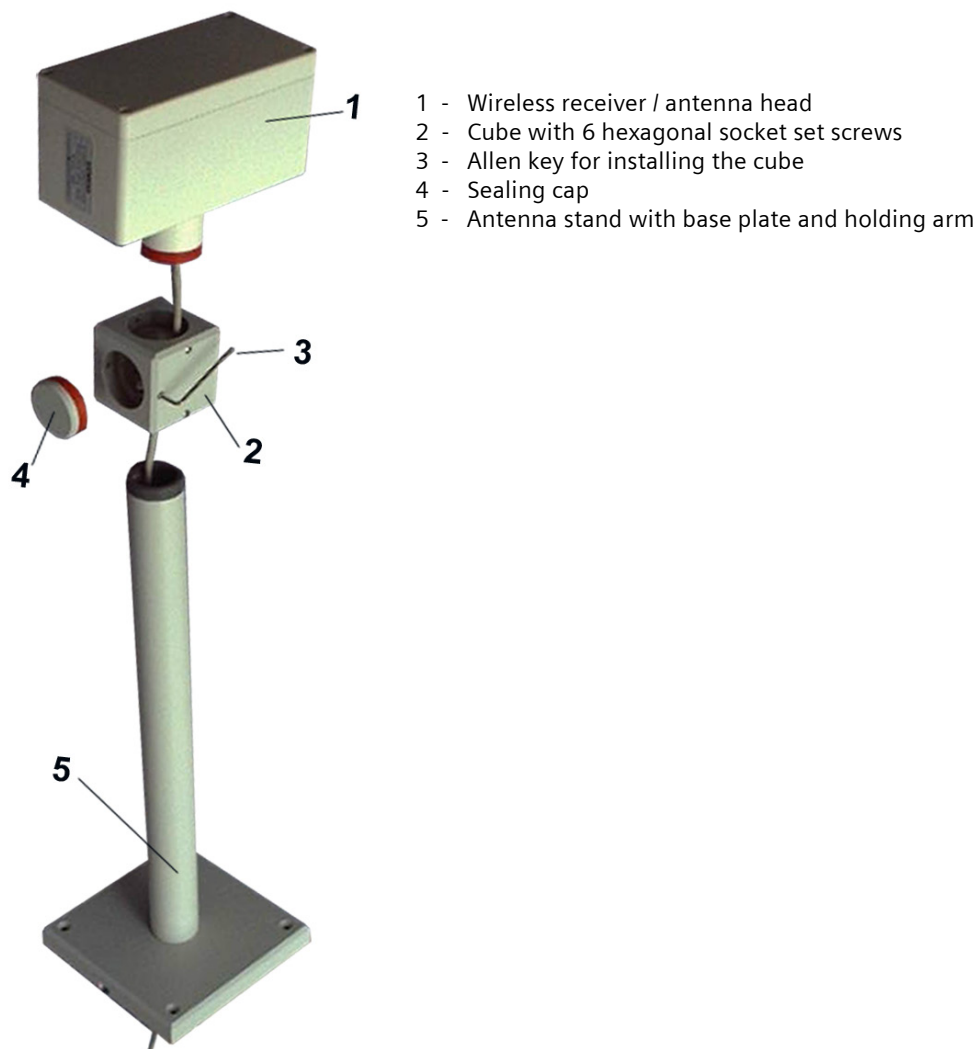
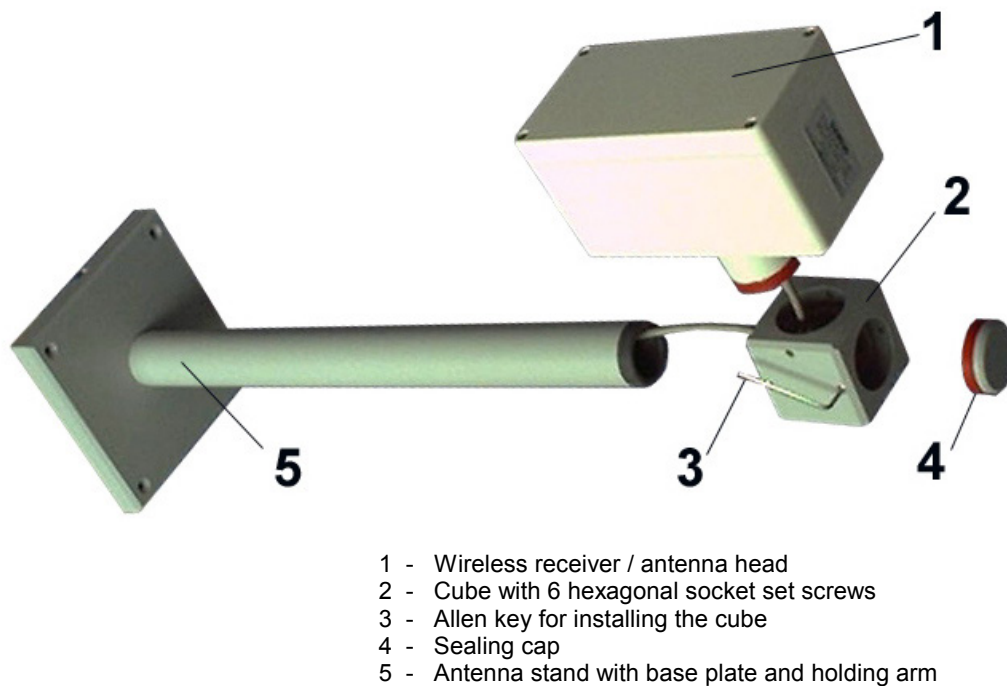

Figure 7: Flat roof installation
Figure 8: Wall mounting
4. Assemble the wireless receiver on the antenna frame in accordance with Figure 7 or Figure 8.
- (a) Mark the position of the holes for mounting in the intended place with the aid of the base plate (5) before drilling the holes and inserting the dowels.
- When installing the antenna on a flat roof (Figure 7), insert the connecting cable of the wireless receiver (1) in a straight line through 2 opposite openings of the cube (2). Push the antenna head support of the wireless receiver into the opening of the cube as far as it goes, and gently tighten on the left and on the right with the two hexagonal socket set screws as provided. Insert the connecting cable from above through the antenna stand (5). Push the cube (2) with the already installed wireless receiver (1) as far as it goes on the holding arm and tighten it gently on the left and on the right on the holding arm with the 2 hexagonal socket set screws as provided. Now adjust the wireless receiver radially (this has no influence on the reception properties). To do this, loosen the hexagonal socket set screws again. After this, tighten the hexagonal socket set screws again. Finally, close the opening in the cube (2) with the sealing cap (4) and then gently tighten the two hexagonal socket set screws on the left and right.
- When installing the antenna on a wall (Figure 8), insert the connecting cable of the wireless receiver (1) in a straight line through 2 opposite openings of the cube (2). Push the antenna head support of the wireless receiver into the opening of the cube as far as it goes, and gently tighten on the left and on the right with the two hexagonal socket set screws as provided. Insert the connecting cable from above through the antenna stand (5). Push the cube (2) with the already installed wireless receiver (1) as far as it goes on the holding arm and tighten it gently on the left and on the right on the holding arm with the 2 hexagonal socket set screws as provided. Now place the stand in position, loosen the hexagonal socket set screws again so that you can align the cover surface of the antenna head parallel to one edge of the base plate and then tighten the hexagonal socket set screws again. Finally, close the opening in the cube (2) with the sealing cap (4) and then gently tighten the two hexagonal socket set screws on the left and right.